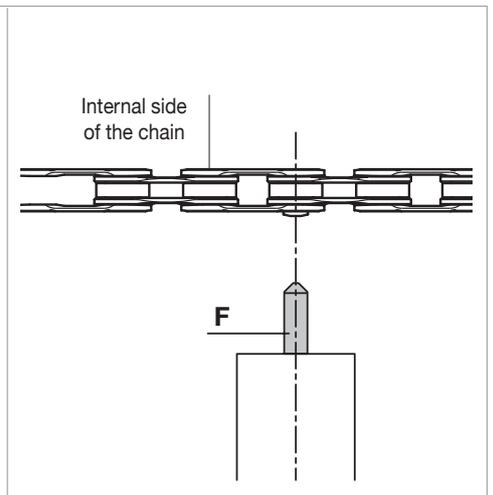

Fig.18
- Check that the tapered tip of the pusher is in line with the centre of the bushing ULTRA-LINK 5-CN-SR700 (**Fig. 18**).